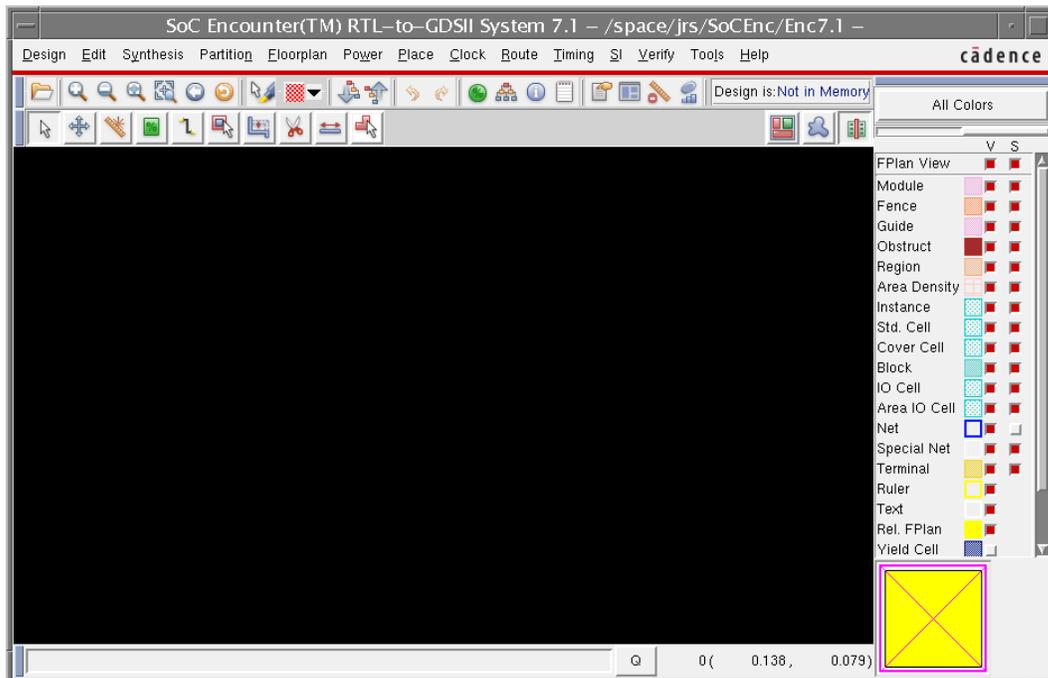

Figure 4: SocEncounter's GUI.
The GUI, presented in Figure 4, pops up and the tool is ready to use. Functionality of the tool can be accessed through the pull-down menus, which are located on top of the encounter window. Below are some toolbar and floorplanning icons which are frequently required during placement and routing. On the right hand side are to switches to enable/disable visibility (V) and selectability (S) of floorplan components, e.g., signals or specific metal layers.